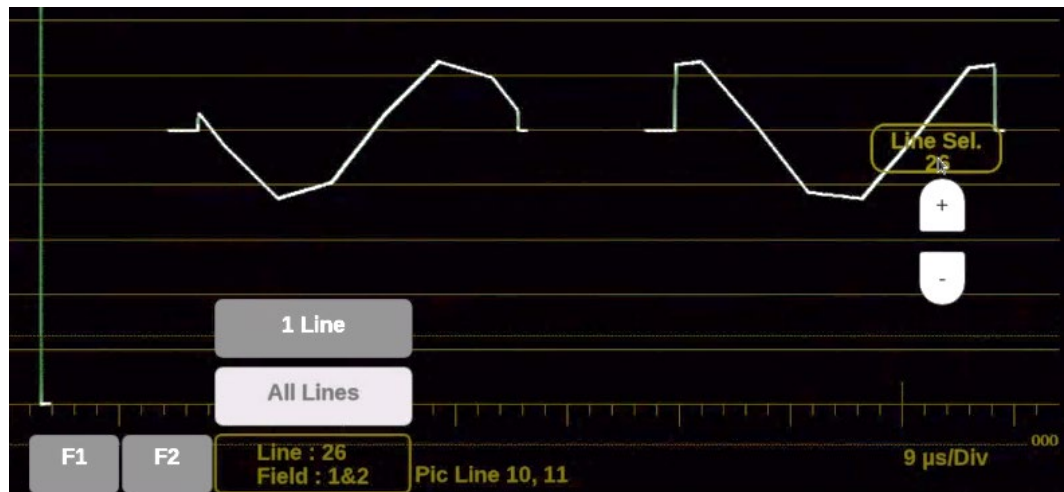

Figure 218: Lightning on-screen tools – Pic Line number
1. Select the **Lines** button at the bottom of the tile. (see Figure 218).
- If a signal is SD, HD, 3G (see Figure 218):